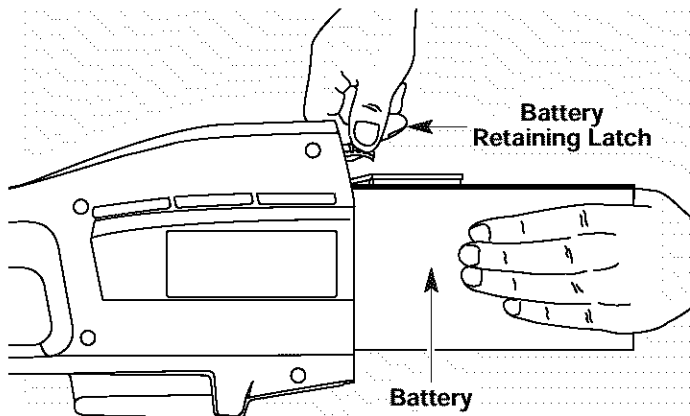

Fig. 18
2. Push down on the battery retaining latch while pulling battery out (Fig. 18).
1. Slide the battery into the battery housing until the battery retaining latch locks the battery into place (Fig 18).